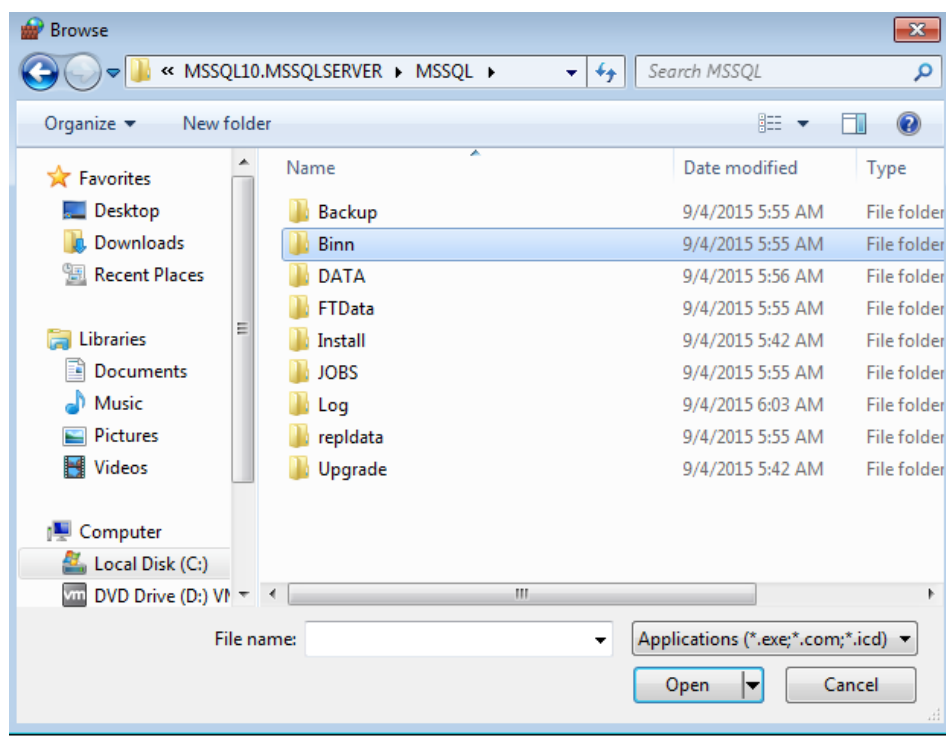

Fig.1.25 Browse
(10) Open Binn folder (see Fig.1.25).